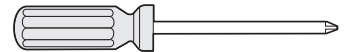

Fig. 9
- Phillips head and small blade-type screwdrivers (Figs. 9 & 10).